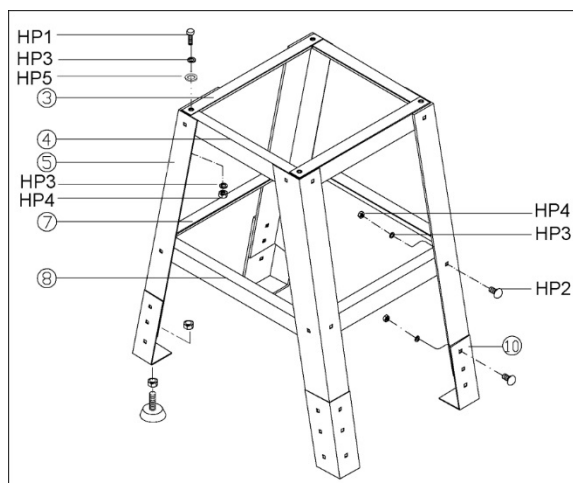

Figure 10: stand assembly (optional accessory)
Refer to Figure 10, or sect. 15.4.1.
1. Assemble stand pieces, referring to Figure 10. (Refer to exploded view, sect. 15.4.1, if further clarification is needed.) **Only hand-tighten** all fasteners at this time.
2. The leg extensions (#10, Figure 10) can be adjusted for height.
3. If stand will not be bolted to the floor, install the leveling feet (shown in Figure 8) that were included with the scroll saw, onto the bottoms of the stand leg extensions (Figure 10).